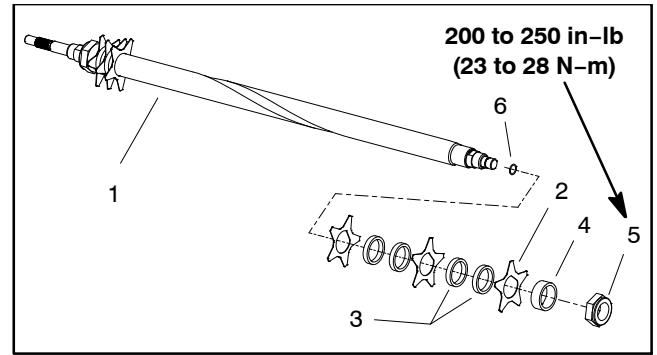

Figure 14
### Disassembly (Fig. 14)
2. Remove lock nut from either end of the shaft (Fig. 14).
### Assembly (Fig. 14)
1. Start by placing thick spacer against the lock nut installed on one end of groomer shaft. Then, place first blade against installed spacer (Fig. 14).
2. For 1/2 inch (1.3 cm) blade spacing, make sure there are two (2) blade spacers between blades (Fig. 14).